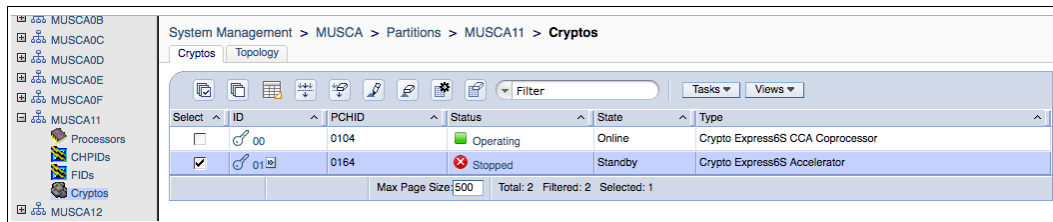

Figure 10-21 System Management: LPAR Crypto Selection, Standby
4. In the contents of Cryptos page, select the Crypto IDs to be changed. Figure 10-21 shows that on server MUSCA to Logical Partition MUSCA11, two cryptographic coprocessors are defined: One CCA coprocessor (ID 00, physical Channel ID 0104), and one Accelerator (ID01, physical Channel ID 0164). The CCA coprocessor is online, and the Accelerator is offline. We now want to also set the Accelerator online.